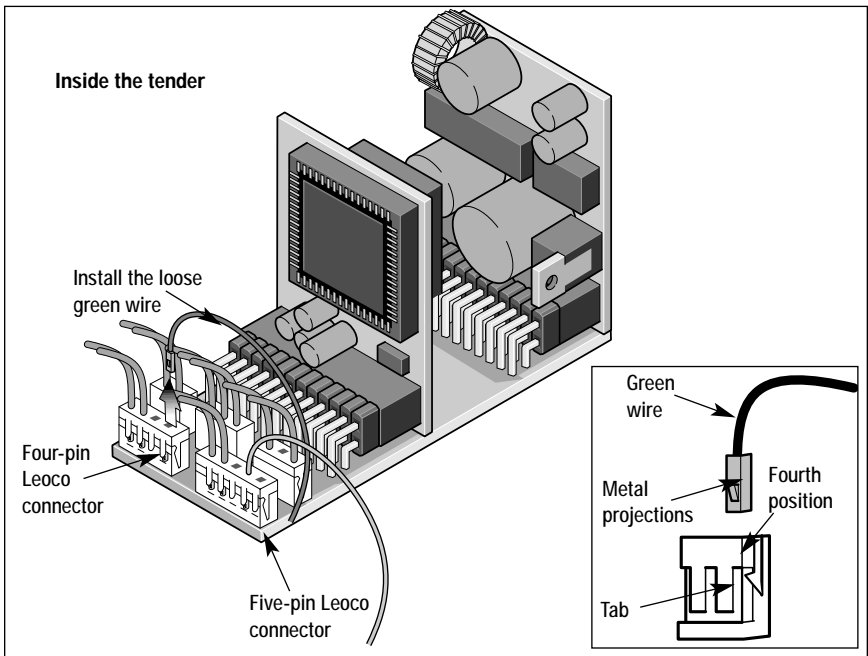

Figure 8. Connecting the green wire
12. Insert the connector pin at the end of the green wire into the empty fourth position on the connector and then plug in the connector. Refer to Figure 8.